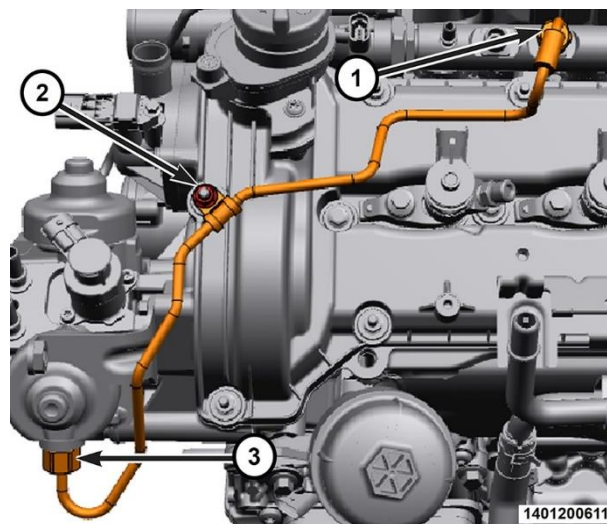

Figure 187 – Left Fuel Rail Supply Tube
24. Unscrew the fuel tube union nut from the fuel injection pump (3) (Figure 187).
25. Remove the fuel tube bracket nut (2) securing the fuel tube (Figure 187).
26. Unscrew the union nut from the fuel rail (1) and remove and discard the fuel tube (Figure 187).
60. Install the **NEW** fuel tube. Hand tighten the union nuts to the fuel rail (1) and tighten to 11 N·m + 75° (8 Ft. Lbs. + 75°) (Figure 187).
61. Install the fuel tube bracket nut (2) securing the fuel tube and tighten to 8 N·m (71 In. Lbs.) (Figure 187).
62. Hand tighten the fuel tube union nut to the fuel injection pump (3) and tighten to 11 N·m + 75° (8 Ft. Lbs. + 75°) (Figure 187).